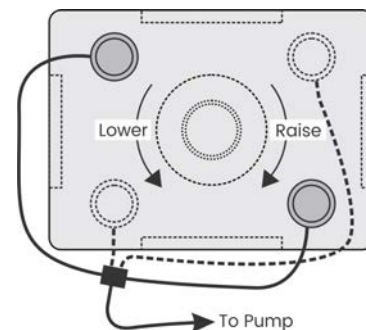

FIGURE 4
- Two or four cylinders are required per isolator. The cylinders within the isolator should be hydraulically connected. This equalizes the hydraulic pressure within the isolator for uniform lifting and loading of the isolator's elastomer cushion. See Figure 4.
13. The isolators are supplied with the height adjustment set at mid-level. Leveling is accomplished by turning the large Leveling Nut located inside the isolator. Viewed from above, turn the leveling boss clockwise to raise the isolator, and counter-clockwise to lower it. See Figure 4.